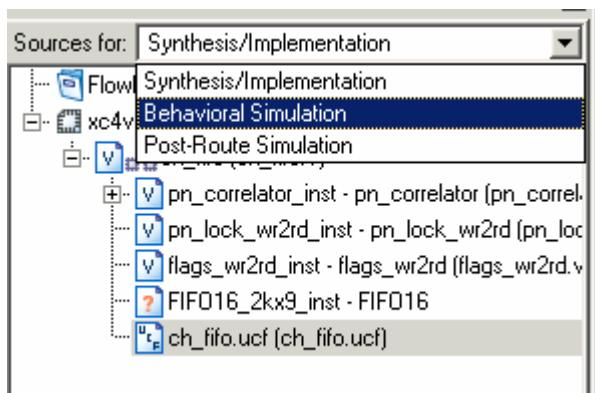

Figure 1f-8. Sources for: Behavioral Simulation
- ① In the Sources for: window, click on **Behavioral Simulation** (**Figure 1f-8**). This will make the testbench associated with the design appear in the Sources for: window